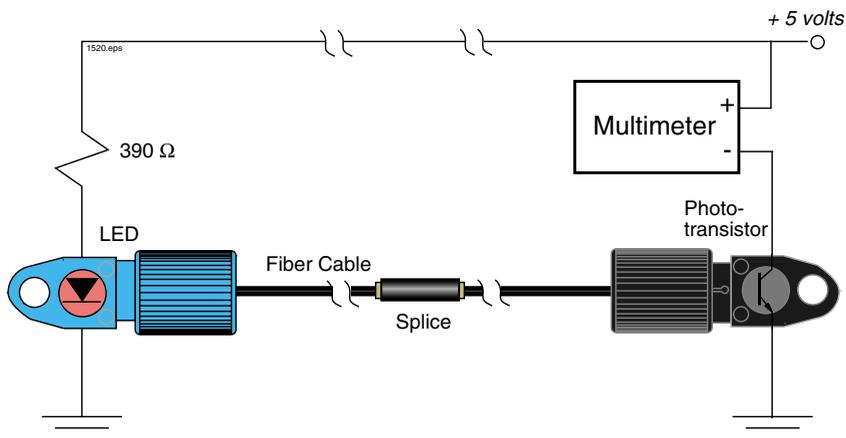

Figure 5.3 Test diagram for measuring photodiode current with a fiber splice installed.
2. Assemble the electrical circuits shown in **Figure 5.3** on your solderless breadboard.